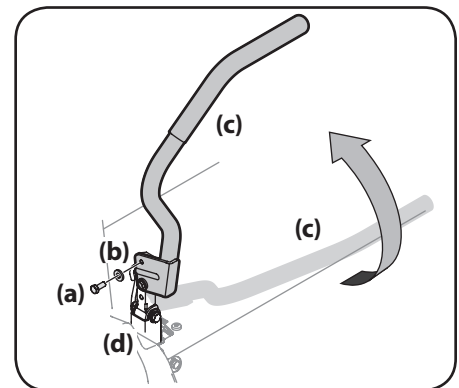

Figure 2-4
1. Remove the hex screws (a) and flat washers (b) from the hardware pack in your manual bag. See Figure 2-4.
2. Lift and swing that control lever (c) upward until the slotted hole in the control lever (c) bracket aligns with one of the holes in the pivot bracket (d). See Figure 2-4.
3. Slide the flat washer (b) onto the hex screw (a). From the outside, insert the hex screw (a) with the flat washer (b) through the control lever bracket (c) and the hole of the pivot bracket (d). See Figure 2-4. Using a 1/2" wrench snug the hex screw (a), but do not fully tighten.